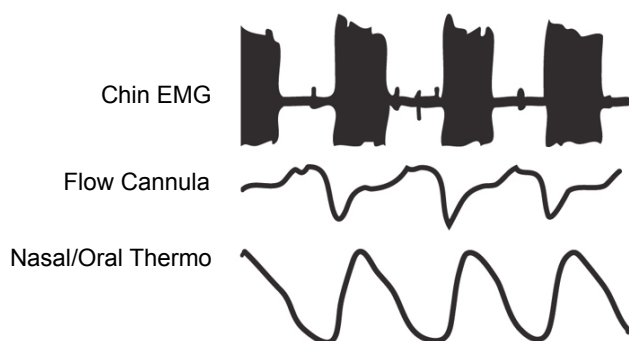

Figure 5-4. Inversion
2. The invert signal setting may be used if stimulation consistently occurs during exhalation (Figure 5-4).